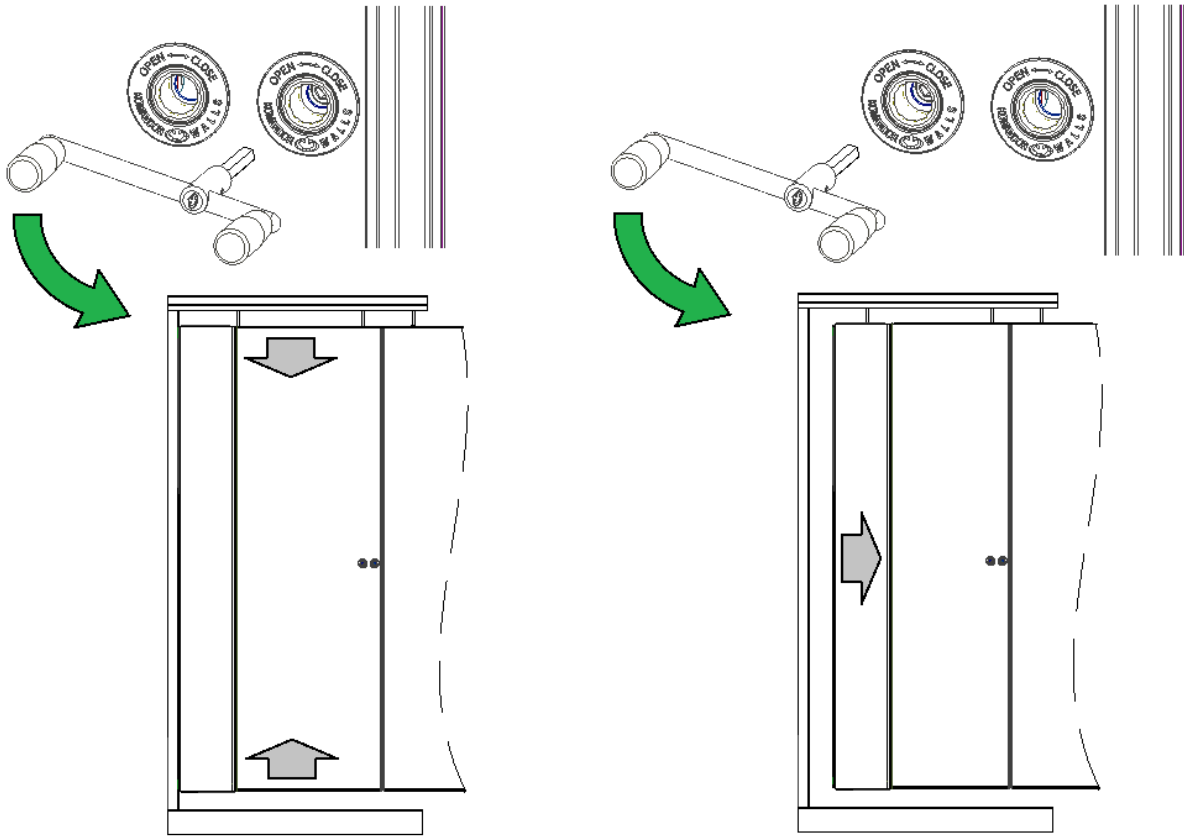

Fig.9. Unlocking the telescopic panel from the left: hiding the spreading beams
1. Unlock the telescopic panel (2) with the key **by inserting it into the RIGHT hole (22) first**. When the top/bottom draw-out beams (10) are completely hidden in the profiles, **the second LEFT opening (22) will be revealed (Fig.9)**
2. Unlock the telescopic panel (2) completely **by inserting the key into the LEFT hole (21) (Fig.9)**
3. Drive the telescopic panel (2) into the parking rack (or parking space)